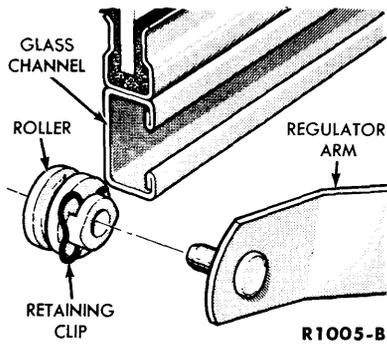

FIG. 9—Glass Channel Roller
2. Disconnect the regulator arms from the glass channel roller assembly by pulling the roller clip out to release the regulator arm pin (Fig.9).
4. Pull the regulator roller retaining clip and disconnect the regulator arm from the glass channel (Fig. 9).